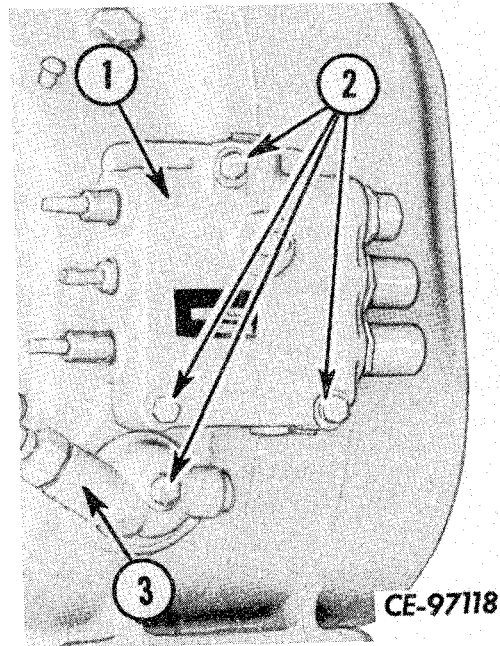

Figure 4-46
Remove the cap screws (2, Fig. 4-46) that secure the main control valve (1) and lube manifold (3) to the transmission case. Remove the valve and manifold. Refer to "CONTROL VALVE."